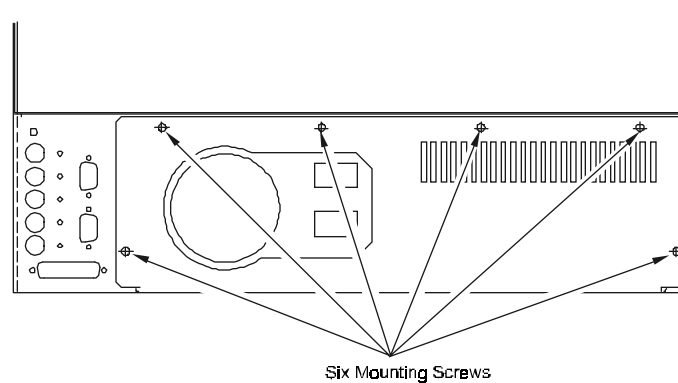

Figure 2-5: Power Module Mounting Screws
3. Loosen the six retaining screws securing the power module to the computer chassis. The screws are self retaining and cannot be completely removed. See **Figure 2-5**.